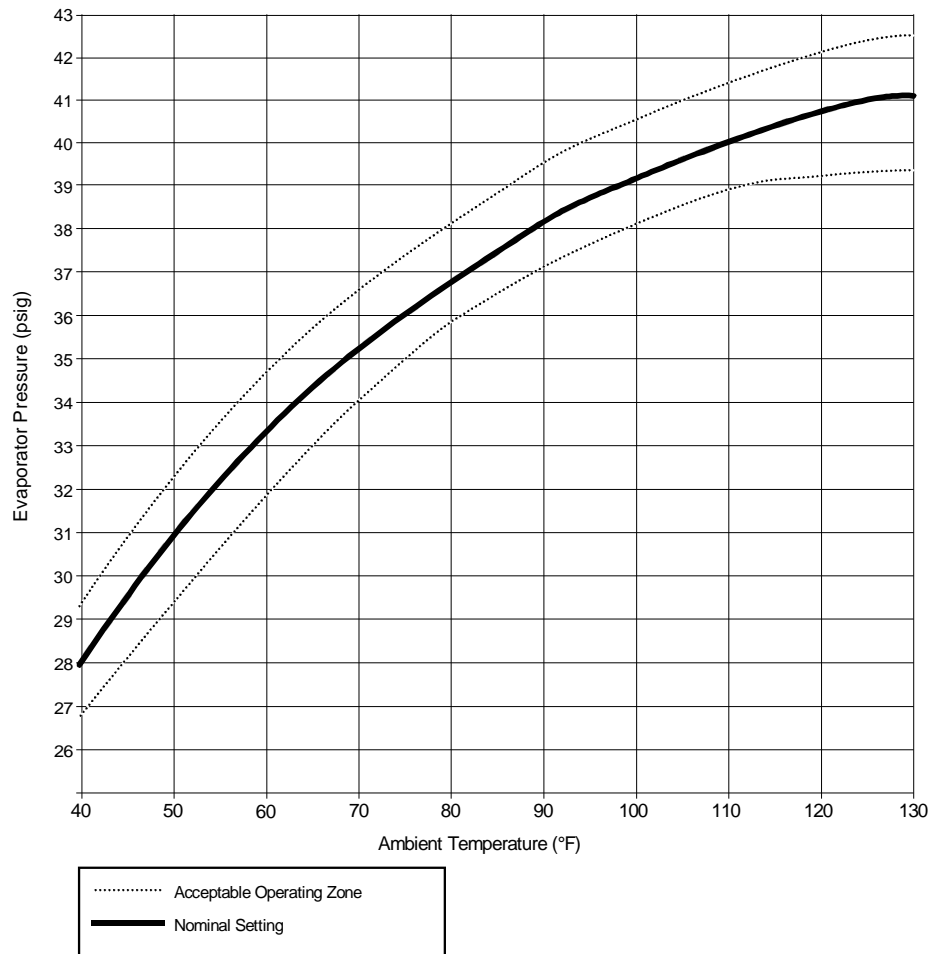

Figure 5: Evaporator Pressure vs. Ambient Temperature (Sea Level--No Load Condition)
Using the corrected no load evaporator pressure gauge reading and current ambient temperature, refer to the graph in Figure 5 to determine if the evaporator pressure is at the proper setting. If the value is within the acceptable operating zone as shown on the graph, then no further adjustments are necessary. If the value is not within the acceptable operating zone, then it will be necessary to adjust the expansion valve. Refer to the Refrigeration Service section and follow Steps 1 through 5 (readjusting the expansion valve setting) to properly adjust the expansion valve until the evaporator pressure gauge is at the adjusted pressure.
If the air dryer is installed in high altitudes, the expansion valve will have to be adjusted to compensate for the new ambient pressure. For altitudes from 1500 to 5000 ft, increase the expansion valve setting by 2.5 psig (17.5 kPa), and for altitudes over 5000 ft, increase the expansion valve setting by 4.0 psig (28 kPa). This increase in evaporator pressure must be added to the value determined by the graph in Figure 5 to account for altitude effects. Refer to the Refrigeration Service section and follow Steps 1 through 5 (readjusting the expansion valve setting) to properly adjust the expansion valve until the evaporator pressure gauge is at the adjusted pressure.
If the air dryer is used in ambient conditions between 35 and 40°F (2 and 4°C) the expansion valve must be adjusted to increase the expansion valve gauge pressure by 3 psig (21 kPa) to offset a possible freeze-up condition. This increase in evaporator pressure must be added to the value determined by the graph in Figure 5 to account for low ambient temperature effects. At high altitudes and low ambient temperatures, it will be necessary to add both pressure corrections and readjust the expansion valve. Refer to the Refrigeration Service section and follow Steps 1 through 5 (readjusting the expansion valve setting) to properly adjust the expansion valve until the evaporator pressure is at the adjusted pressure. Operation of the A-4400 in ambient temperatures below 35°F (2°C) is not recommended.
The A-4400 is factory set to follow the Evaporator Pressure vs. Ambient Temperature curve illustrated in Figure 5. If at no load, the evaporator pressure rises above the acceptable operating zone, one or more of the following conditions may exist.
If the evaporator pressure is below the acceptable operating zone (refer to Figure 5) then either the expansion valve is out of adjustment or the refrigerant charge is low.
3. Turn the expansion valve adjusting screw to provide an evaporator pressure that corresponds to the ambient temperature determined in Figure 5. Turning the screw clockwise increases the pressure; counterclockwise decreases the pressure. One complete revolution (360 degrees) equals a pressure change of approximately 10.5 psi (73.5 kPa).
8. If the evaporator pressure (gauge reading plus correction) does not return to normal as illustrated in Figure 5, adjust the expansion valve as described in the Refrigeration Service section.